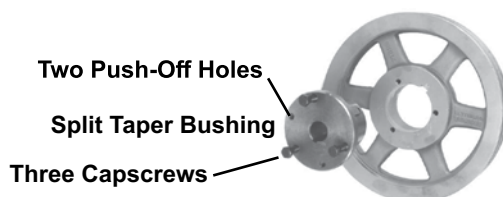

Figure 18. Blower Pulley Removal
- a. Note that there are three capscrews in the bushing and two holes—without screws—called push-off holes (see Figure 18). Remove capscrews.